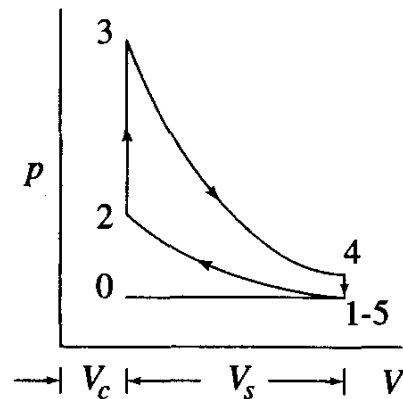

Fig. 1.5 Ideal  $p$ - $V$  diagram of a four-stroke SI engine
- The details of various processes of a four-stroke spark-ignition engine with overhead valves are shown in Fig. 1.4 (a-d). When the engine completes all the five events under ideal cycle mode, the pressure-volume ( $p$ - $V$ ) diagram will be as shown in Fig.1.5.
**a) Suction or Intake Stroke:** Suction stroke 0→1 (Fig.1.5) starts when the piston is at the top dead centre and about to move downwards. The inlet valve is assumed to open instantaneously and at this time the exhaust valve is in the closed position, Fig.1.4 (a).
**b) Compression Stroke:** The charge taken into the cylinder during the suction stroke is compressed by the return stroke of the piston 1→2, (Fig.1.5). During this stroke both inlet and exhaust valves are in closed position, Fig. 1.4(b).
- During the burning process the chemical energy of the fuel is converted into heat energy producing a temperature rise of about 2000 °C (process 2→3), Fig.1.5. The pressure at the end of the combustion process is considerably increased due to the heat release from the fuel.
**c) Expansion or Power Stroke:** The high pressure of the burnt gases forces the piston towards the BDC, (stroke 3→4) Fig .1.5. Both the valves are in closed position, Fig. 1.4(c). Of the four-strokes only during this stroke power is produced. Both pressure and temperature decrease during expansion.
**d) Exhaust Stroke:** At the end of the expansion stroke the exhaust valve opens instantaneously and the inlet valve remains closed, Fig. 1.4(d). The pressure falls to atmospheric level a part of the burnt gases escape. The piston starts moving from the bottom dead centre to top dead centre (stroke 5→0), Fig.1.5 and sweeps the burnt gases out from the cylinder almost at atmospheric pressure. The exhaust valve closes when the piston reaches TDC.
- Thus for one complete cycle there is only one power stroke while the crankshaft makes two revolutions. For getting higher output from the engine the heat addition (process 2→3) should be as high as possible and the heat rejection (process 3→4) should be as small as possible. Hence, one should be careful in drawing the ideal p - V diagram (Fig.1.5), which should represent the processes correctly.